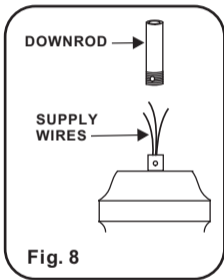
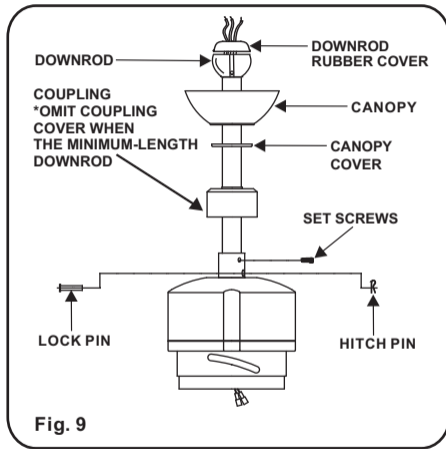

Fig. 8
Fig. 9
Step 4. Carefully feed fan wires up through the downrod. (Fig. 8) Thread Downrod into the Coupling until the holes are lined up and secure with the Lock Pin and Hitch Pin previously removed, tighten Set Screws. (Fig. 9)
Step 5. Slip coupling cover, canopy cover and canopy onto downrod. (Fig. 9) Carefully reinstall hanger ball onto rod being sure that cross pin is in correct position, set screws are tighten and wires are not twisted.
Step 6. Place downrod rubber cover onto the hanger ball. (Fig. 9)